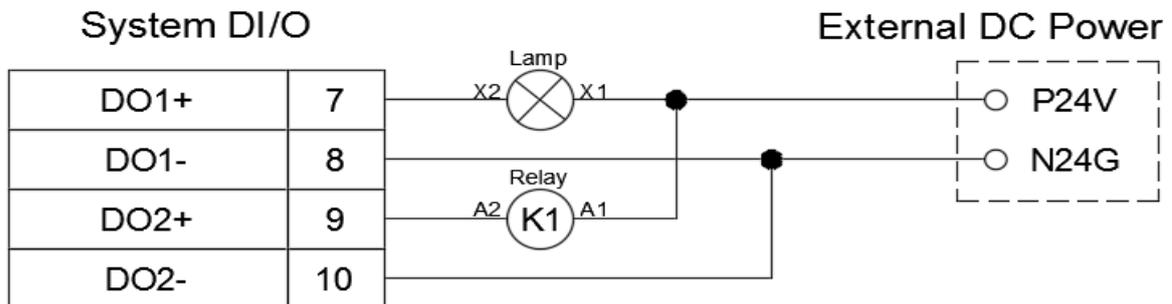

Figure 7.26 System DO controller voltage output NPN wiring
- When the selected output voltage signal is the controller voltage output, the NPN wiring method is as shown in Figure 7.26 below: